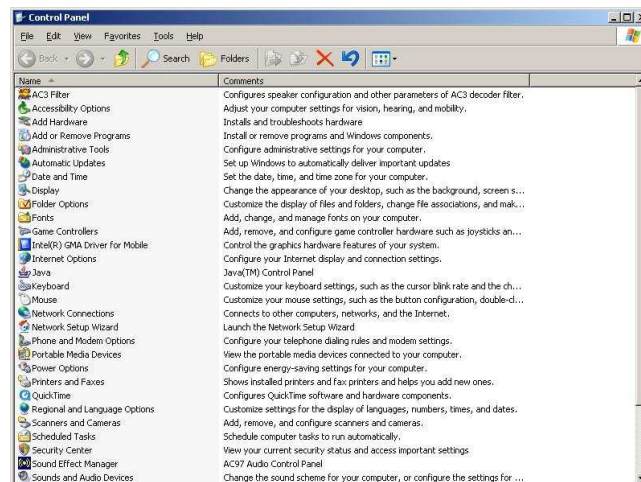

Figure 25: Control Panel
2. Double click on `Control Panel`, obtaining a screen like figure 25.